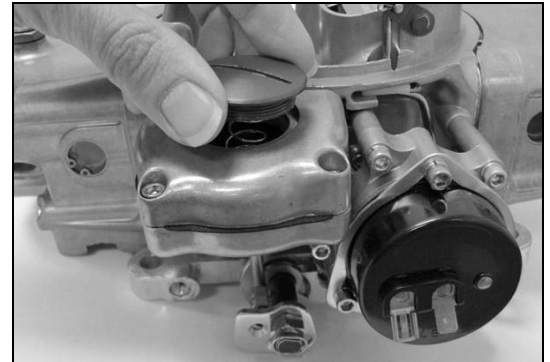

Figure 26
3. Replace with a spring selected from the chart below and reinstall the disk (Fig. 26).